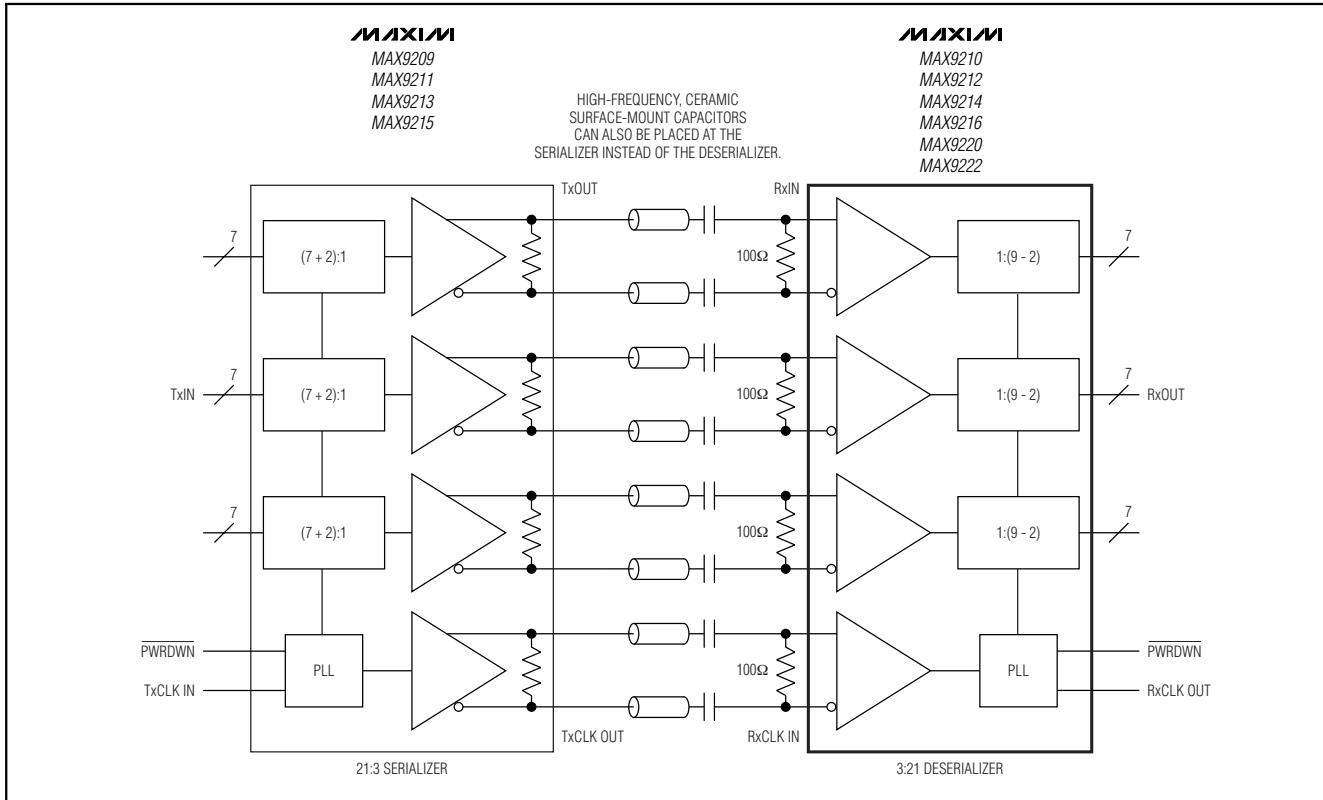
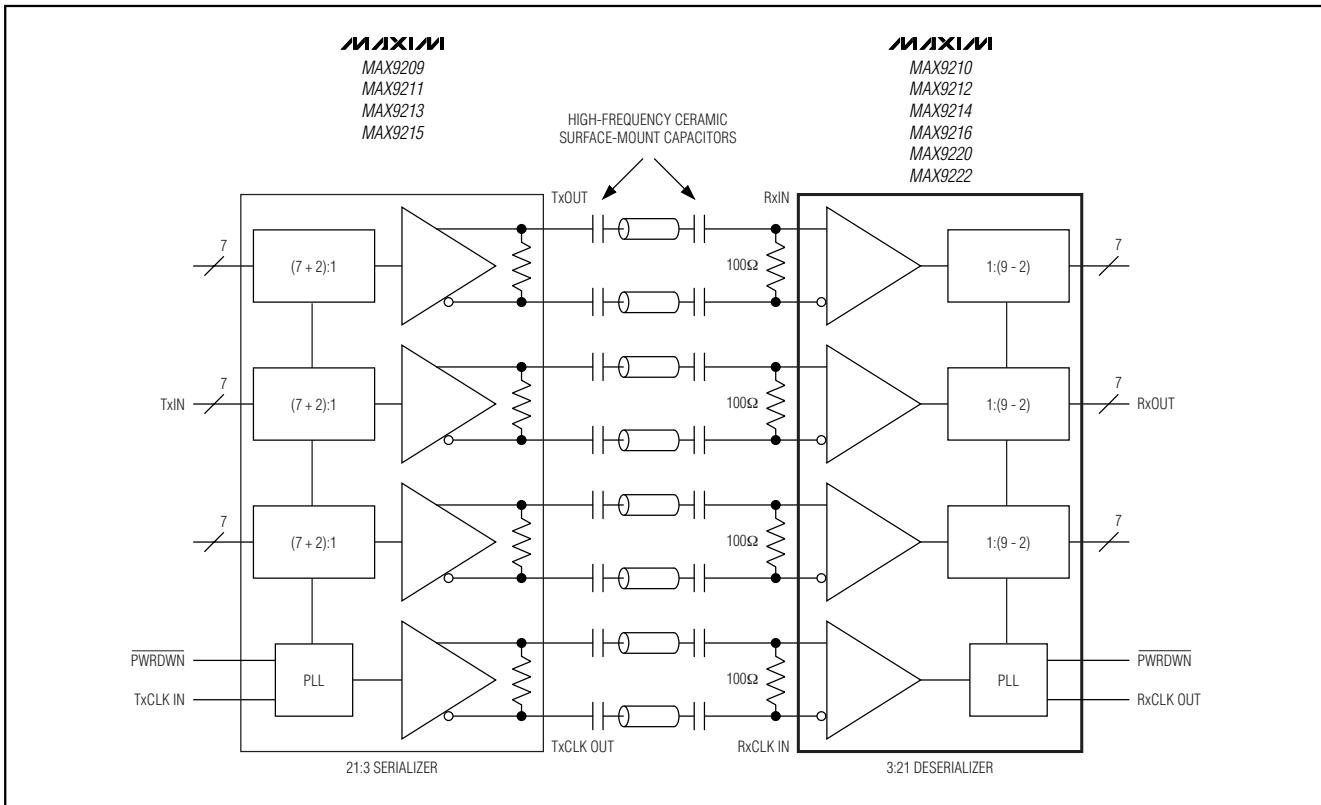

Figure 12. Two Capacitors per Link, AC-Coupled, DC-Balanced Mode
Figure 13. Four Capacitors per Link, AC-Coupled, DC-Balanced Mode
The RC network for an AC-coupled link consists of the LVDS receiver termination resistor ( $R_T$ ), the LVDS driver output resistor ( $R_O$ ), and the series AC-coupling capacitors (C). The RC time constant for two equal-value series capacitors is  $(C \times (R_T + R_O))/2$  (Figure 12). The RC time constant for four equal-value series capacitors is  $(C \times (R_T + R_O))/4$  (Figure 13).
Equation 1 is for two series capacitors (Figure 12). The bit time ( $t_B$ ) is the period of the parallel clock divided by 9. The DSV is 10. See equation 3 for four series capacitors (Figure 13).
The transition time in a real system depends on the frequency response of the cable driven by the serializer. The capacitor value decreases for a higher frequency parallel clock and for higher levels of droop and jitter. Use high-frequency, surface-mount ceramic capacitors. Equation 1 altered for four series capacitors (Figure 13) is: